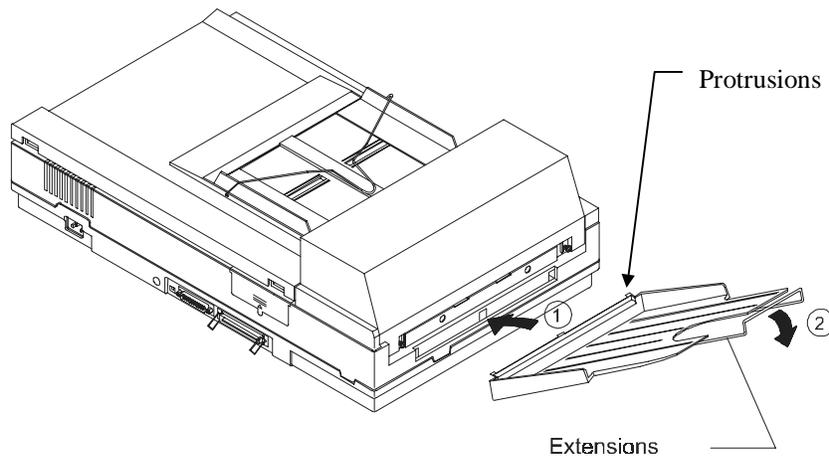

Figure 2-5 Install the ADF Output Paper Tray
2.4 ADF OUTPUT TRAY (FIGURE 2-5)	2-6
2.4 ADF Output Tray (Figure 2-5)
- i). Hold the output paper rack some 30 degrees aslant as shown in Figure 2-5.